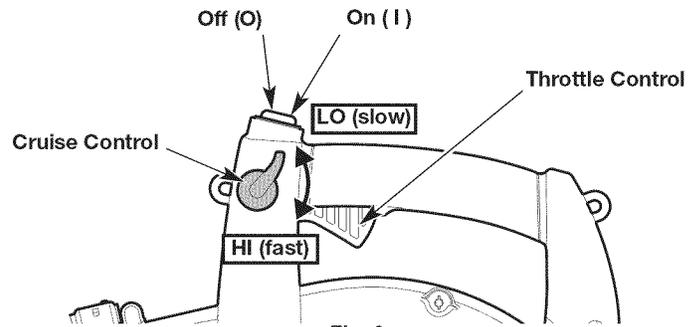
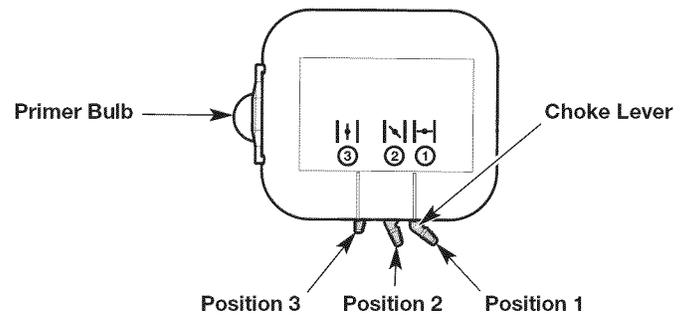

Fig. 6
Fig. 7
NOTE: There is no need to turn the unit on. The On/Off switch is in the ON (I) position at all times (Fig. 6).
3. Slowly press and release the primer bulb **10 times** (Fig. 7).
4. Move the cruise control to the **LO (slow)** position (Fig. 6).
NOTE: Keep the cruise control in the **LO (slow)** position and **DO NOT** squeeze the throttle control until step 10 (Fig. 6).
5. Move the choke lever to **Position 1** (Fig. 7).
8. **DO NOT** squeeze the throttle control. Move the choke lever to **Position 2** (Fig. 7).
10. Squeeze and hold the throttle control or move the cruise control to the **HI (fast)** position (Fig. 6). Allow the engine to warm up for 30 to 60 seconds.
11. Continue to squeeze the throttle control or keep the cruise control in the **HI (fast)** position (Fig. 6). Move the choke lever to **Position 3** (Fig. 7) and continue warming the engine for an additional 60 seconds. The unit may be used during this time.
2. Press and hold the On/Off switch in the **OFF (O)** position until the engine comes to a complete stop (Fig. 6).
NOTE: Keep the cruise control in the **LO (slow)** position and **DO NOT** squeeze the throttle control until step 12 (Fig. 6).
9. **DO NOT** squeeze the throttle control. Move the choke lever to **Position 2** (Fig. 7).
12. Squeeze and hold the throttle control or move the cruise control to the **HI (fast)** position (Fig. 6). Allow the engine to warm up for 30 to 60 seconds.
13. Continue to squeeze the throttle control or keep the cruise control in the **HI (fast)** position (Fig. 6). Move the choke lever to **Position 3** (Fig. 7) and continue warming the engine for an additional 60 seconds. The unit may be used during this time.
2. Press and hold the On/Off switch in the OFF (O) position until the engine comes to a complete stop (Fig. 6).
- Use the cruise control to make continuous operation easier (Fig. 6).